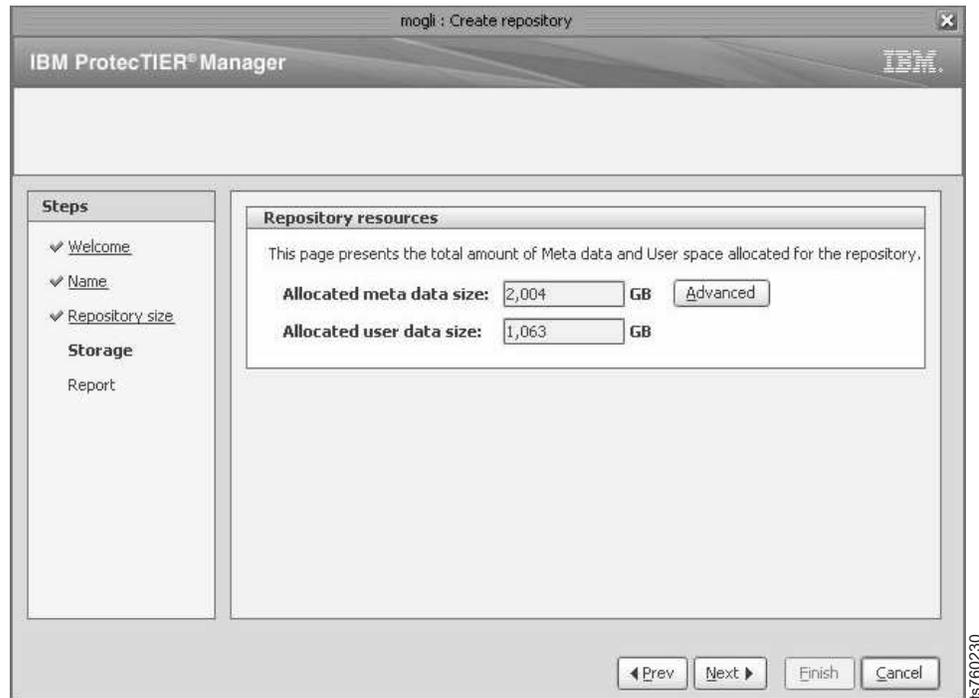

Figure 28. Storage window
- a. In the **Repository size (TB)** field, enter the repository size (in terabytes) that you determined with the “Create repository” wizard.
- e. From the **Disk Size (GB)** list, select the disk size that is used in the RAID array for metadata. If an exact match is not available, select the closest smaller value.
8. Click **Next**. The Storage window opens. See Figure 28.